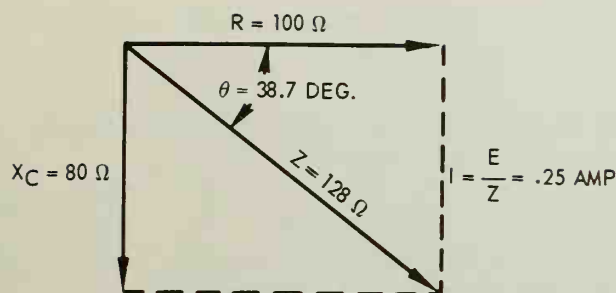

Fig. 9-22. Vector diagram used for text problem.
2. Draw the vectors for R and X_C . Use any convenient scale. In the series circuit, the current is constant and voltages are out of phase. R is used as a horizontal reference and X_C is plotted downward by 90 deg. since the voltage across C will lag the current. See Fig. 9-22.